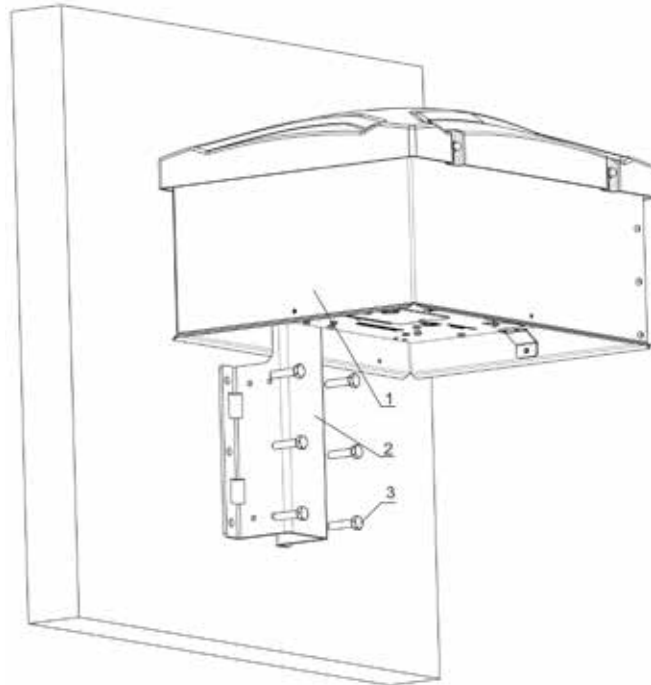

Fig. 2-5. ATU installed on a wall
The whole assembly (1 & 2) is then secured to a wall with 6 bolts (3) with the weather protective cover facing up – figure 2-5. Although the weather protective cover (1) provides the necessary shielding from the elements, whenever it's possible, the tuner should be mounted under a shed. This way maximum protection and minimum material wear both from water and sunlight and heat will be provided, extending the tuner's operational lifespan. When installing the system outdoors always select a location, free from any possible loose cables or other objects that might fall on or hit the tuner assembly.